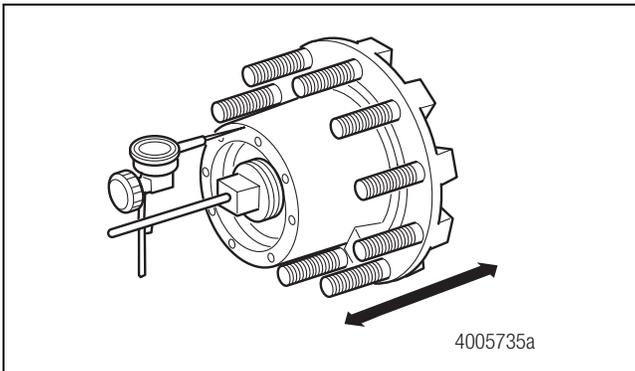

Figure 5
3. Attach the magnetic base of the dial indicator to the spindle. Touch the dial indicator stem to the hubcap mounting surface. Figure 5.